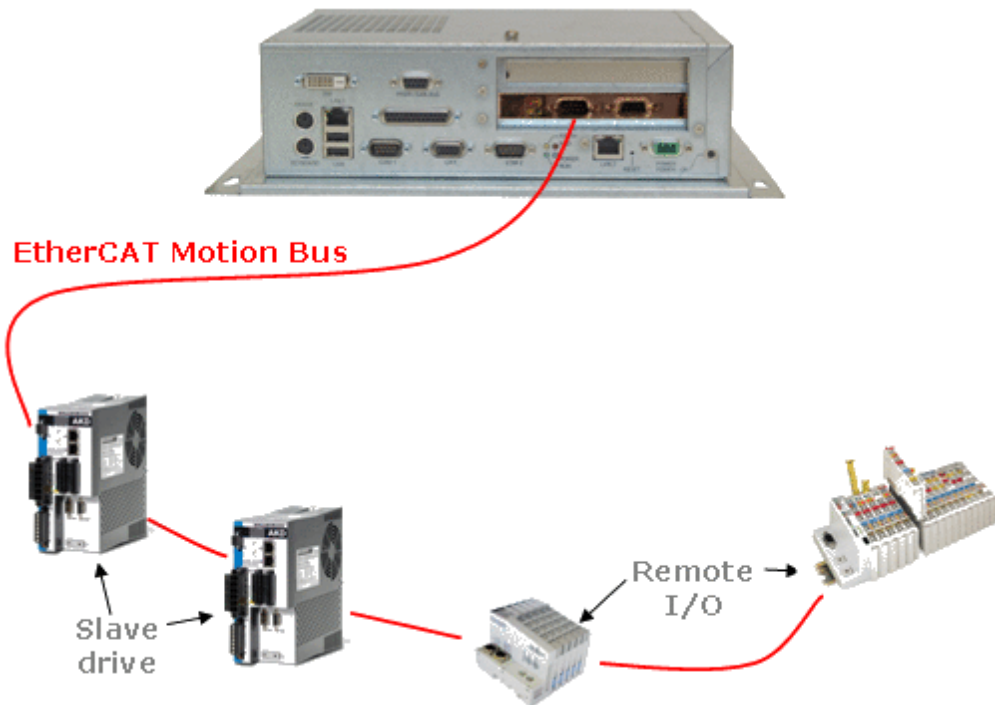

Figure 4-13: EtherCAT Network - Physical View
- Discover the devices physically present in the fieldbus network (see "Figure 4-13: EtherCAT Network - Physical View " on page 163)